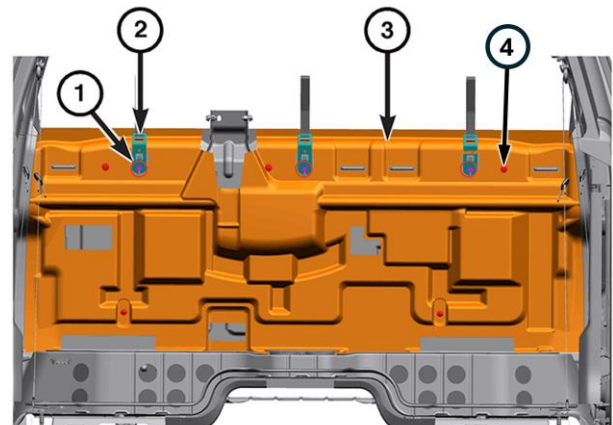

Figure 11 – Rear Cab Back Trim Panel
4. Remove and **DISCARD** the three bolts that retain the three child seat tethers to the rear cab and remove tethers (Figure 11).
5. Remove the five push-pin fasteners and remove the rear cab trim panel (Figure 11).
13. Install the five push-pin fasteners that secure the rear cab trim panel (Figure 11).
14. Install three **NEW** bolts that retain the three child seat tethers to the rear cab and tighten to 12 N·m (9 Ft. Lbs.) (Figure 11).